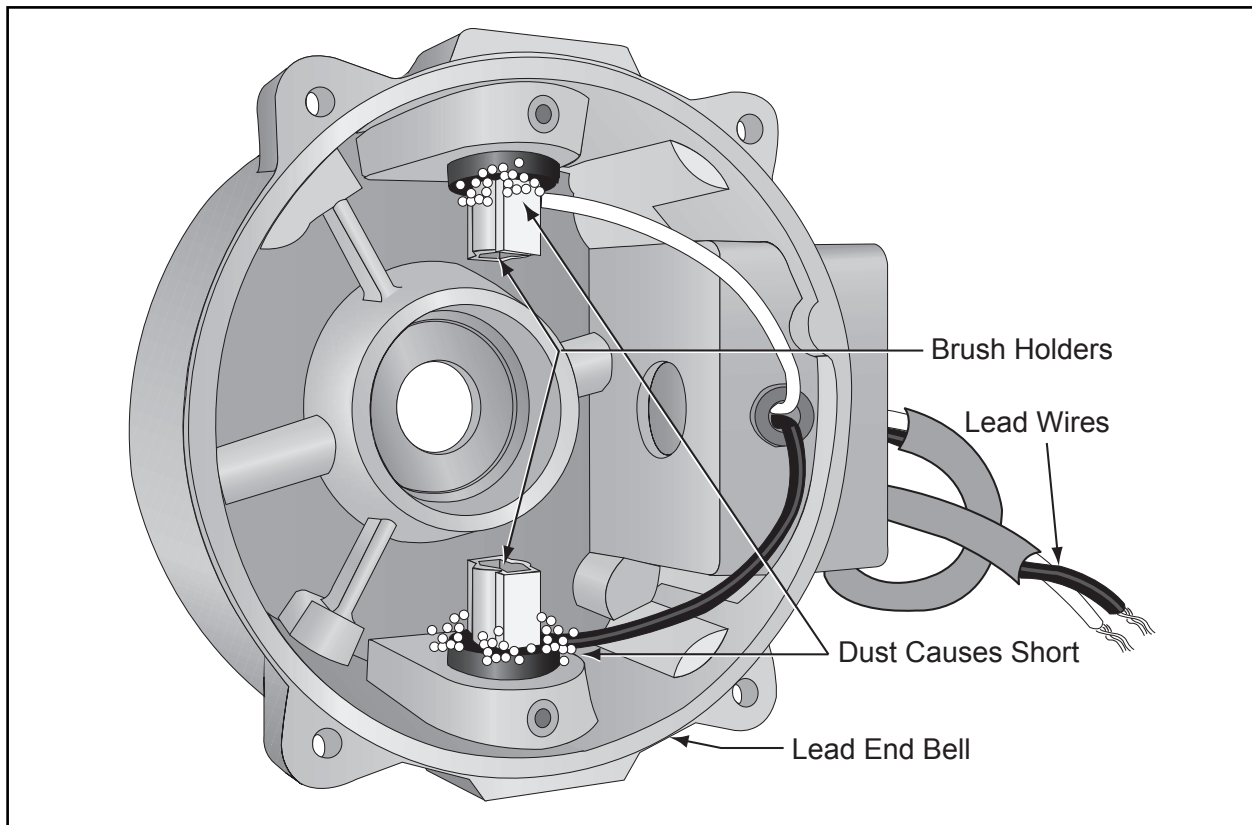

Figure 12
- B.** Use a *dry* cloth to loosen and wipe away dirt and brush dust from around the brush holder area and inside the lead end bell. Brush dust can be loosened from the brush holder area by lightly filing the surfaces. See Figure 12. If there is excess dust you may use a vacuum.